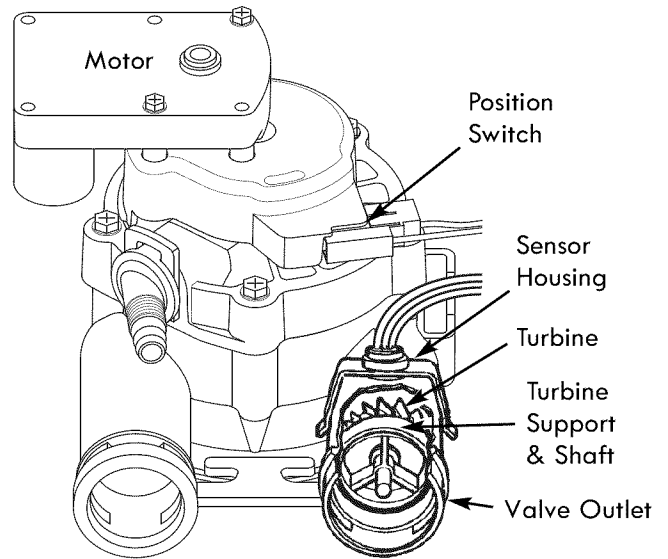

Figure 34
**TURBINE OPERATION:** If no water is flowing through the softener, the turbine indicator displays three zeros. When water is flowing, a 000 to 199 count repeats for each gallon of water passing through the turbine. To check for positive operation of the turbine if zeros are shown, open a nearby soft water faucet and observe the turbine count. If you don't get a reading in the display with faucet open, pull the sensor housing from the valve outlet port (see Fig. 34). Pass a small magnet back and forth in front of the sensor. You should get a reading in the display. If you get a reading, unhook the inlet and outlet plumbing and check the turbine for binding.